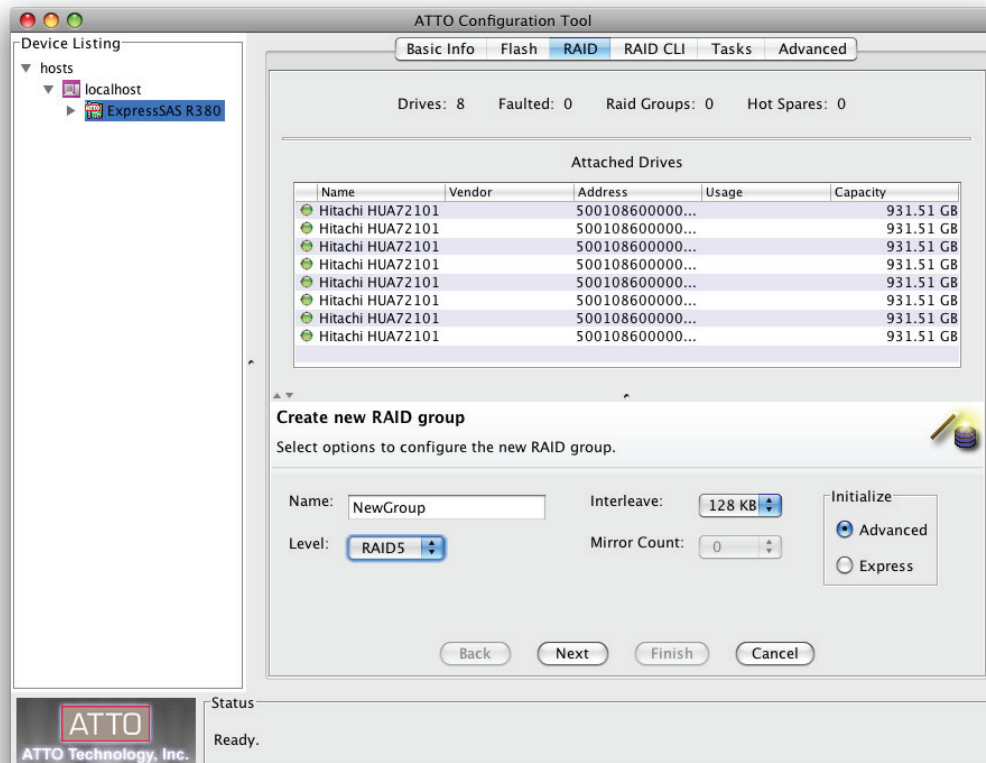

Figure 11
2. Select the first set of options to configure the new RAID group. See **Figure 11** on page 13.